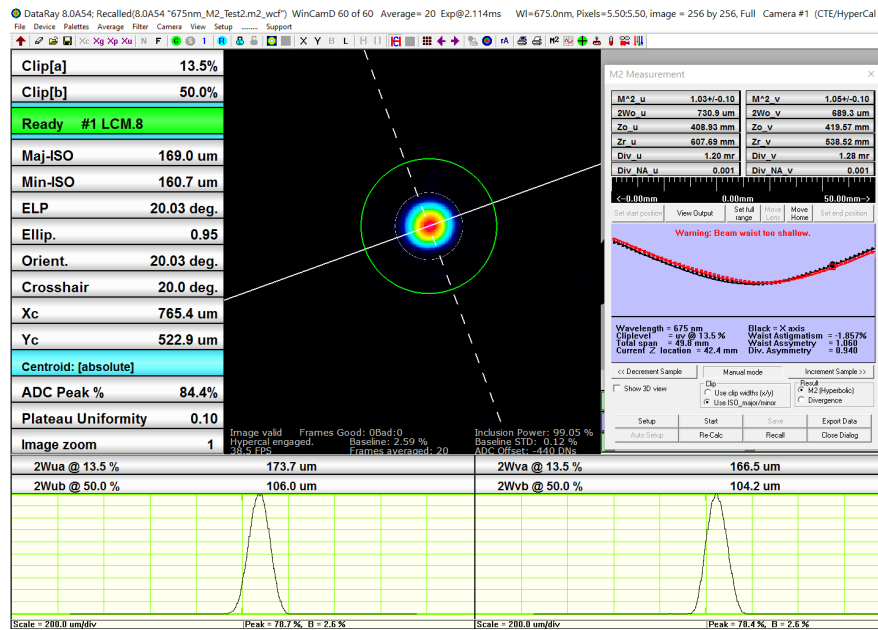

Fig. A.12: Save data using Save in the M2 Measurement dialog.
6. Press **G** or click on the green highlighted cell as shown in Fig. A.12 to start a capture. Verify that Peak ADC is <90%. If it is not, the beam may require additional attenuation.